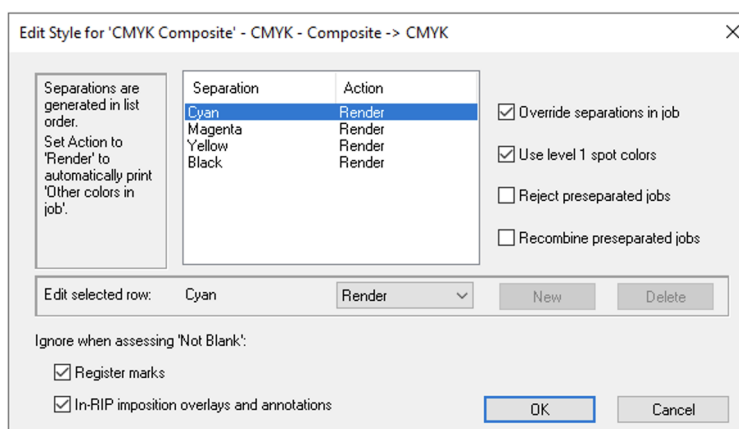

Figure 13.18 Edit Style dialog box
- Otherwise, a more compact dialog box displays only the options for separations, as shown in Figure 13.18. This form of the dialog box suits contone output and also output to devices and processes that do their own screening.
This dialog box contains a list showing the separations that the RIP can produce. There are initially separations for the process colors in the selected color space. In Figure 13.18 there are separations for the four process colors in the CMYK color space.